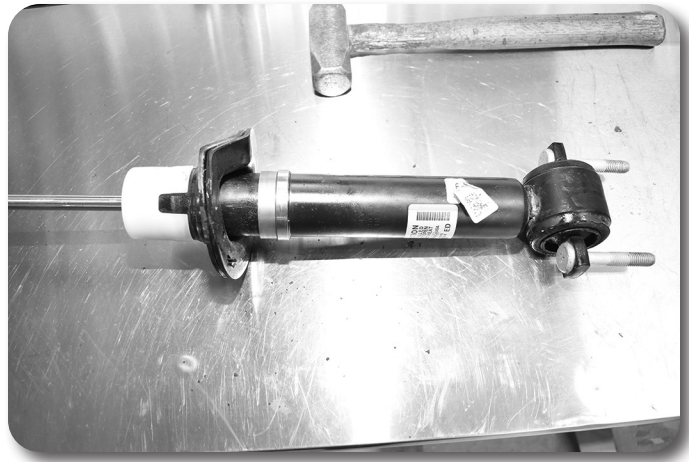

Figure 10
16. Install the preload spacer ring on the strut body such that the groove in the preload spacer goes over the snap ring on the strut body (Fig. 10.)